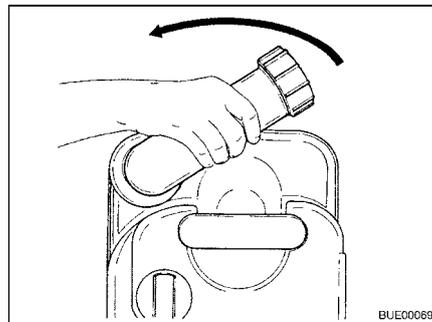

Fig. 154 Turning drainage neck
- Turn the drainage neck upwards (Fig. 154).